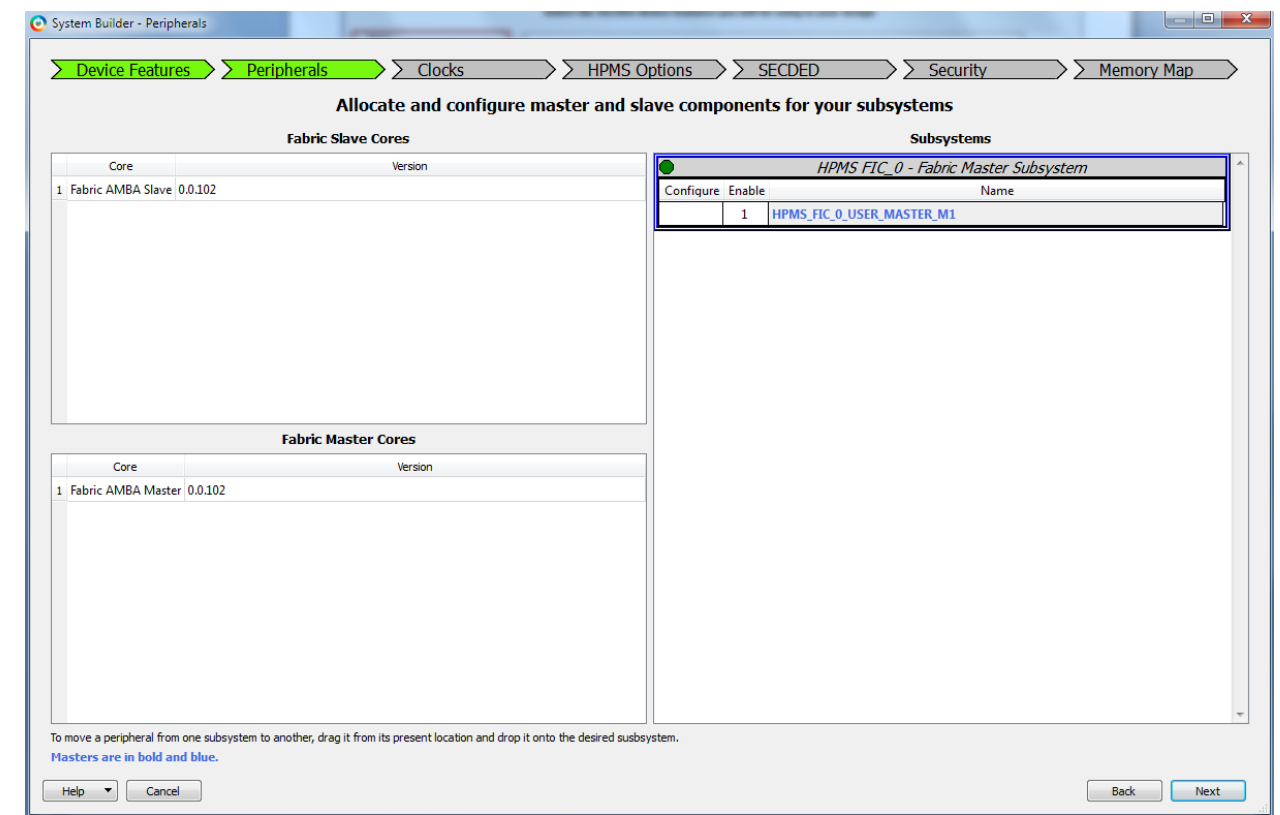

Figure 6 System Builder – Peripherals
8. Click **Next**. This opens the **System Builder – Peripherals** tab as shown in Figure 6. Use the default settings.